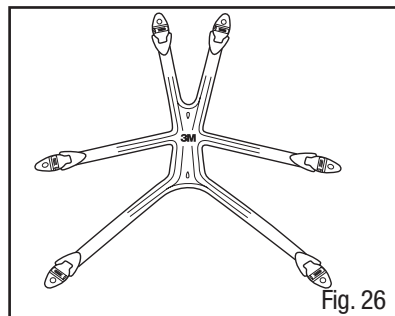

Fig. 26
3. Place the head harness down on a flat surface with the 3M logo facing up (Fig. 26).